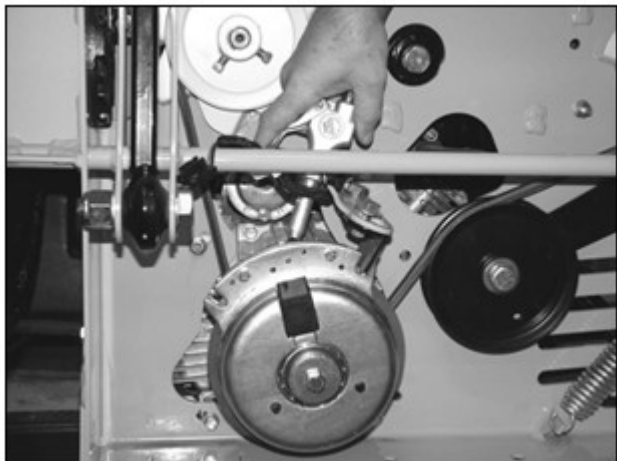

Figure 24
With engine off, key removed and clutch disengaged and using a pneumatic line, blow out any debris from under the brake pole and around the aluminum spacers. [Figure 24]
3. Using a pneumatic line, blow out any debris from under the brake pole and around the aluminum spacers. [Figure 24]